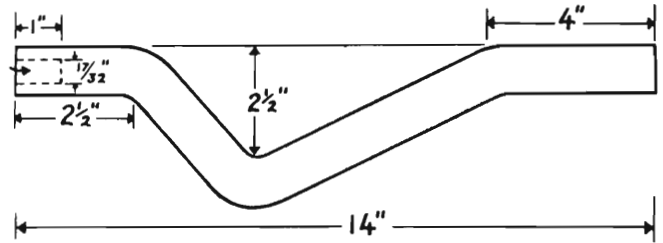

Fig. 16A – Hood hinge retaining “push-nut installer” (manufacturing sketch)
(9) Drive the press nuts on to the cowl studs (with the front fenders in place) using a suitable installing tool (as illustrated in Fig. 16A).
(10) Re-install screws retaining hinge to hood, check hood alignment and adjust if necessary.
(11) Check operation of the hood and, if the new hinge is noisy, force H.M.P. grease between the coils of the spring.
(12) Re-install door, check alignment and adjust if necessary.
(13) Remove protecting hose or tape from fender.
(14) Touch up screw heads (body colour).